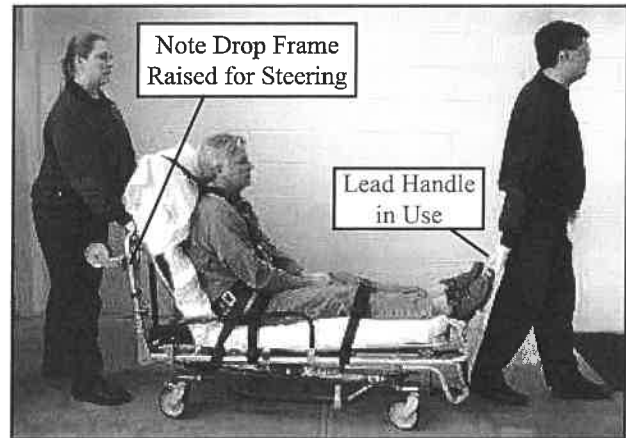

Figure 26 - Rolling the Cot as a Sled
2. **Assisting Operator:** Raise the drop frame to one of the high locking positions (+1 or +2). Grasp the drop frame with both hands and help steer and push the cot (Figure 26).
3. **Control Operator:** Extend the lead handle and pull the cot (Figure 26).